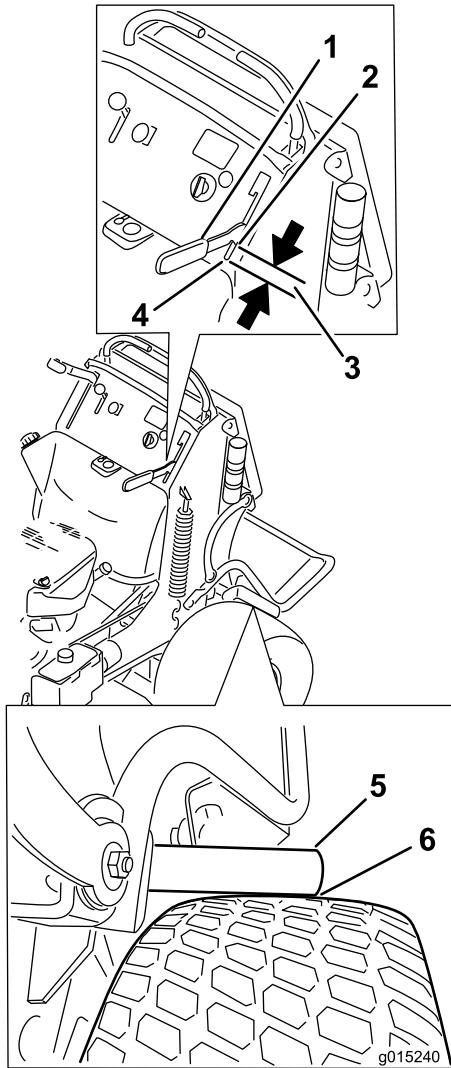

Figure 63
4. Engage the brake lever until the brake bars first contact the tire (Figure 63).
5. Measure the gap from the front of the hand lever to the end of the slot in the control panel when the brake bar contacts the tire (Figure 63).